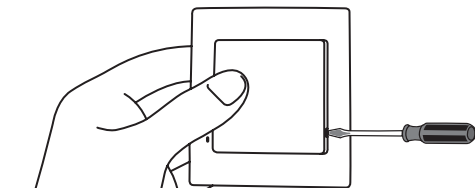

Fig. 2
2. By means of a screwdriver lever up the printed-circuit board releasing the bottom latch and remove it from the base (Fig. 2).